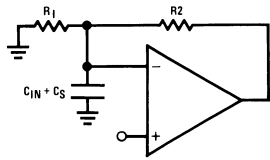

FIGURE 2.
**Input Capacitance:** The input capacitance,  $C_{IN}$ , of the LM146 is approximately 2 pF; any stray capacitance,  $C_S$ , (due to external circuit layout) will add to  $C_{IN}$ . When resistive or active feedback is applied, an additional pole is added to the open loop frequency response of the device. For instance with resistive feedback (Figure 2), this pole occurs at  $\frac{1}{2\pi} (R_1 || R_2) (C_{IN} + C_S)$ . Make sure that this pole occurs at least 2 octaves beyond the expected -3 dB frequency corner of the closed loop gain of the amplifier; if not, place a lead capacitor in the feedback such that the time constant of this capacitor and the resistance it parallels is equal to the  $R_1(C_S + C_{IN})$ , where  $R_1$  is the input resistance of the circuit.